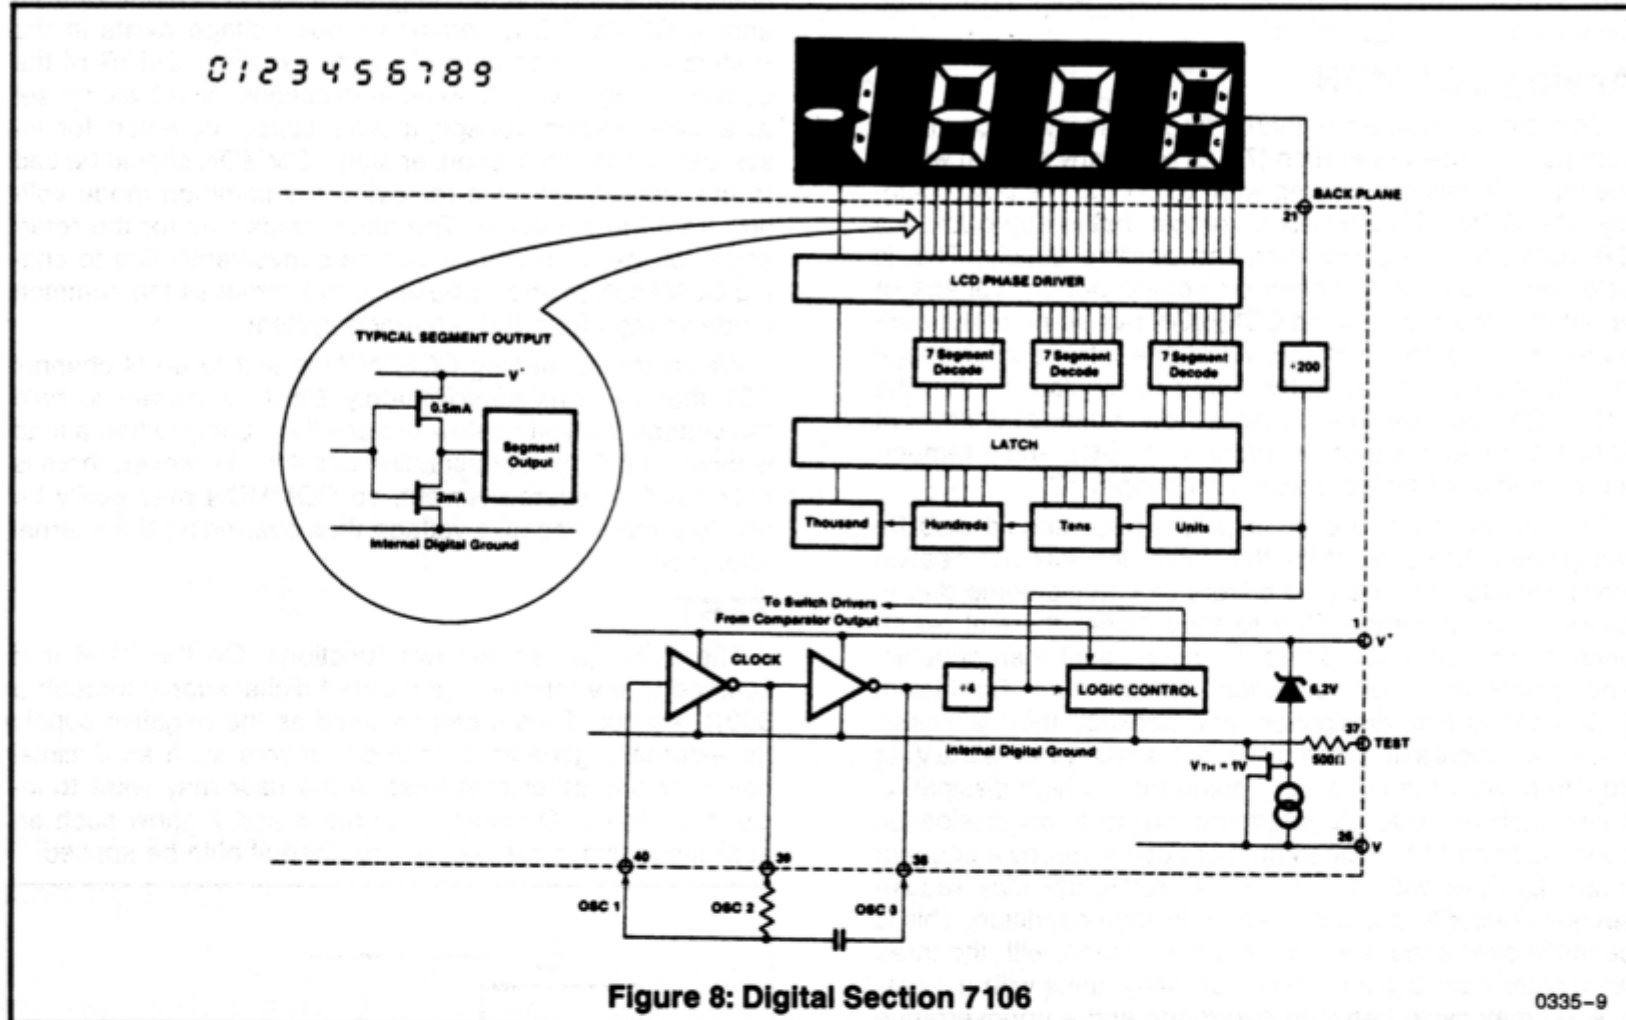

Figure 8: Digital Section 7106
Figures 8 and 9 show the digital section for the 7106 and 7107, respectively. In the 7106, an internal digital ground is generated from a 6 volt Zener diode and a large P channel source follower. This supply is made stiff to absorb the relative large capacitive currents when the back plane (BP) voltage is switched. The BP frequency is the clock frequency divided by 800. For three readings/second this is a 60Hz square wave with a nominal amplitude of 5 volts. The segments are driven at the same frequency and amplitude and are in phase with BP when OFF, but out of phase when ON. In all cases negligible DC voltage exists across the segments.